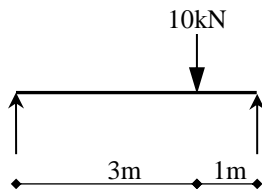

Fig. 1
- a) Figure 1 shows a simply supported rectangular beam 100mm wide X 200mm deep, spanning 4m and carrying a concentrated load of 10kN.